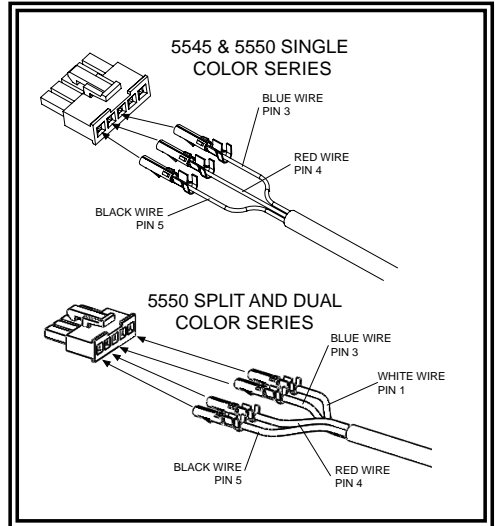

FIGURE 3
5. Turn pins crimp side up, and insert pins into connector as shown in Figure 3.